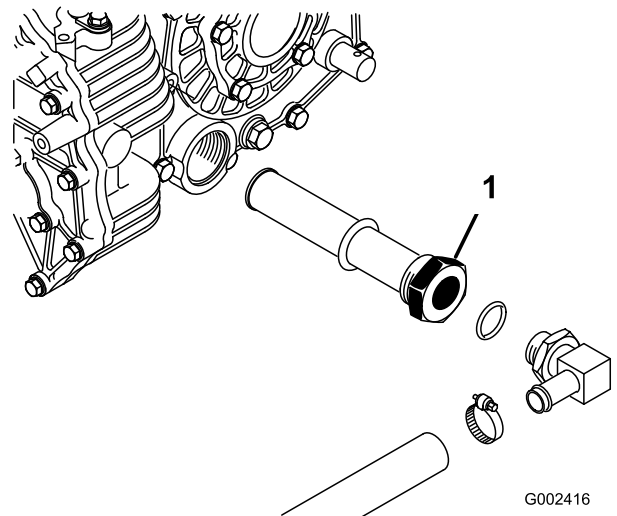

Figure 71
3. Note the orientation of the hydraulic hose and 90° fitting connected to the strainer on the side of the reservoir (Figure 71).